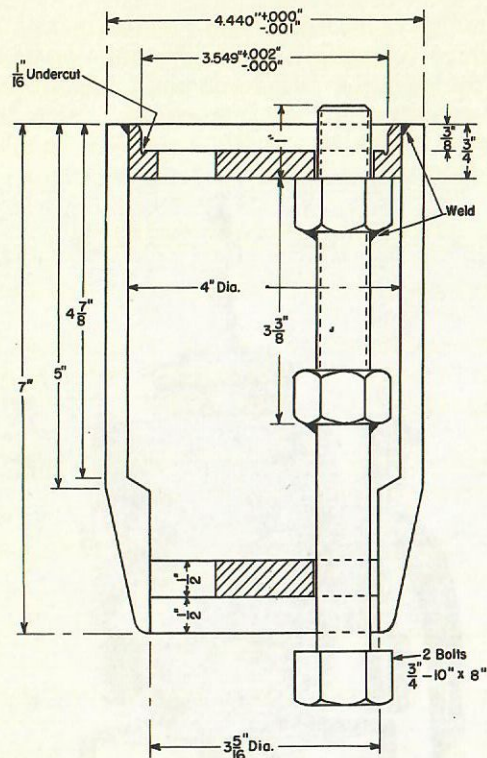

Fig. 7-10
7. Remove washer and end plate from commutator end of shaft, and take off the thrust ring of bearing. Install commutator-end bearing pilot (see Fig. 7-10) over end of shaft, and secure it with two bolts screwed into tapped holes in end of shaft.